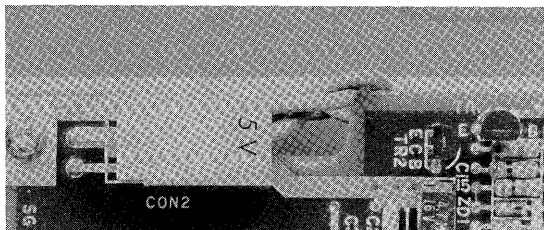

Fig. 6.1 Voltage Measuring Points of Basic Unit
- a. Measure 5V at 5V of CON2 and SG. (Fig. 6.1)